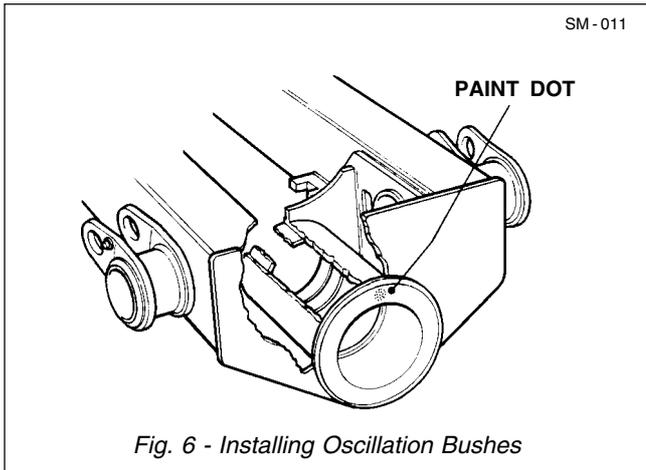

Fig. 6 - Installing Oscillation Bushes
2. Apply Loctite 648 (3) and Loc Quick Primer (4) and align new bushes (2) to housing with grease holes aligned vertically and identification 'PAINT DOT' at Top Dead Centre. Refer to Fig. 6. Drift bushes (2) into housing using hammer with soft packing for protection.
3. Install plug (25) in filler/level hole on pivot assembly (1). Install gasket (5) and cover plate (6) on side of oscillation hub and secure with bolts (7) and washers (20).
4. Install plug (25) in cavity drain port on underside of oscillation hub.
5. Install plugs (28) into oscillation bearing grease ports.
6. Lightly coat 'V' ring (10) and machined surfaces of pivot with Extreme Pressure Multipurpose Grease (26) and, install 'V' ring (10), with lip towards rear, on front of oscillation hub.
7. Using suitable lifting equipment, and taking care to prevent damaging bushes (2) or pivot threads, install pivot assembly (1) into rear frame.
8. Lightly coat 'V' ring (10) and machined surfaces of pivot with Extreme Pressure Multipurpose Grease (26) and, install 'V' ring (10), with lip towards front, on rear of oscillation hub.